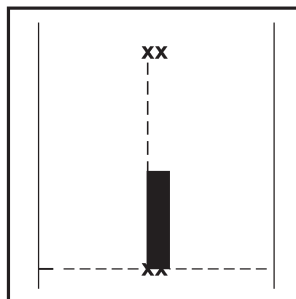

Figure 9
4. Lay out the straight arrow base (liner still on) with the LEFT edge along the left chalk line and the base along the base line (see Figure 9).